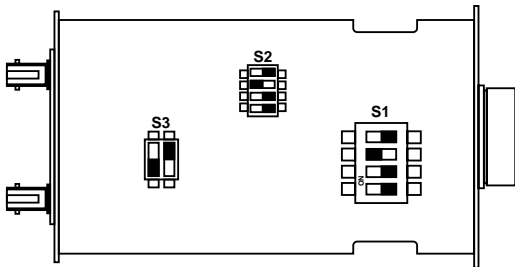

Figure 3-1. Strapping diagram.
2. Configure the modem according to the strapping diagram (see **Figure 3-1**) and the DIP-switch selection table (see **Table 3-1**).